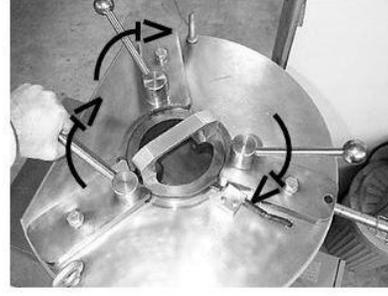

Figure 6.1: Insert the Mold Top
- Select **VERIFY FORCE** then press the  button. If the mold top is not in position, install the mold top. Make sure the mold top is locked in place with the clamps. (Figure 6.1)
- Be sure the proper mold top is in position and locked in place with the clamps (Figure 6.1). Be certain the proper ram foot is installed as well (Figure 6.1).